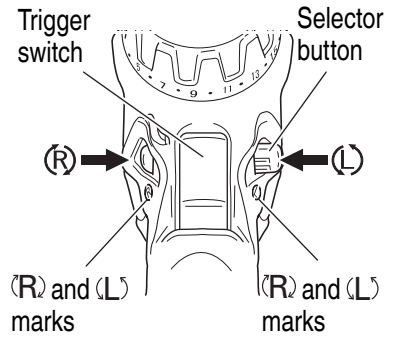

Fig. 7
The L-side of the selector button is pushed to turn the bit counterclockwise (See **Fig. 7**) (The (L) and (R) marks are provided on the body).